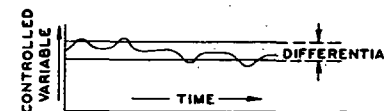

FIG. 3. FLOATING CONTROL SHOWING VARIATIONS IN CONTROLLED VARIABLE AS LOAD CHANGES
3. *Floating action*, Fig. 3, is the type, as with two-position action, where the controller can perform only two operations: moving the controlled device usually at a constant rate either towards its open or its closed position. Generally there is a neutral zone between the two positions which allows the controlled device to stop at any position whenever the controlled variable is within the differential of the controller. When the controlled variable gets outside the differential of the controller, the controller moves the controlled device in the proper direction. An example of floating control is a fire box draft controller positioning a damper in the breeching of a boiler.